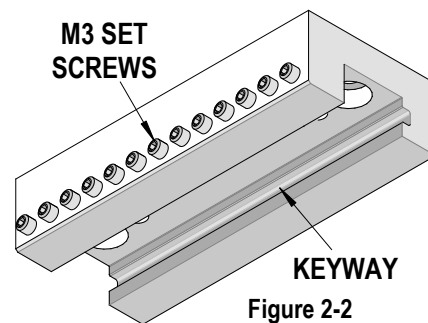

Figure 2-2
1. Along the lower edge of the tooling holder is a row of M3 set screws. (See Figure 2-2) Loosen these a few turns so that they do not protrude into the inside of the holder.